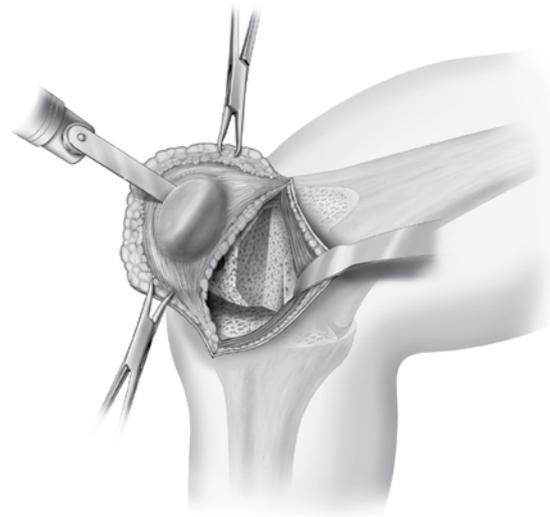
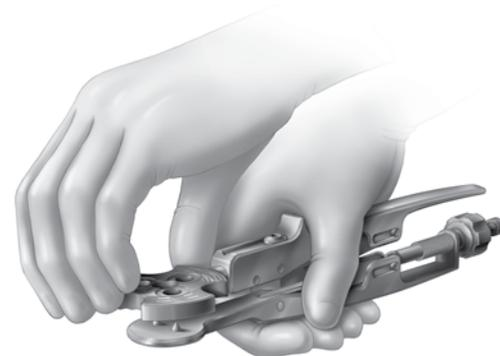

Figure 27
Figure 28
For patellar resection performed without a Patellar Resection Guide (“free hand”), the patella should be stabilized with large towel clips or similar instruments. The articular surface of the patella should be resected with an oscillating saw from either (1) the edge of the medial articular surface to the edge of the lateral articular surface, or (2) from the patellar tendon insertion cephalad to the quadriceps tendon insertion (*Figure 27*). The **Patellar Resection Guides** may also be used to perform the patella resection. While the **Patellar Resection Guide** claws are open, lock the side lever and squeeze the handles together to securely grip the sides of the patella. The adjustment knob can be rotated to the appropriate thickness to ensure the patella is secured to the guide while performing the resection. When patellar resection is complete, final determination of patellar size (diameter) and hole preparation should be performed using the **LPI Patellar Universal Drill Guide** assembled to the **LPI Patella Preparation Handle** (*Figure 28*). The **Patella Thickness Gauge** can also be used to measure the resected patella to determine the patellar size (diameter). With the handle completely open, position the Drill Guide on the patella to determine the patellar diameter. The pattern and size of the Drill Guide holes are universal for all three-peg patella components. Clamp the patella and secure the handle by turning the knob. Holes should be drilled through the patellar universal drill guide in either the three-hole or the single-hole configuration. After the holes are drilled, loosen the knob and remove the handle and Drill Guide from the patella. The appropriate size of trial prosthesis should be placed on the patella.